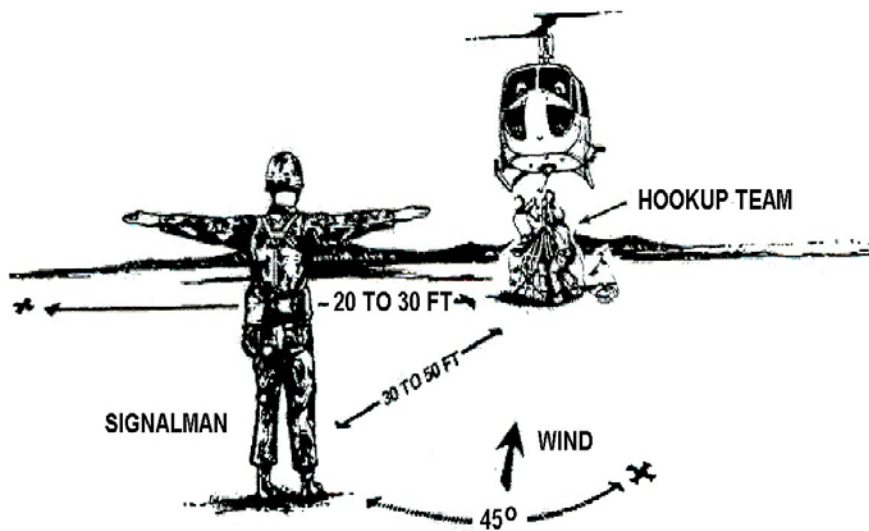

Figure 3-145
- h. Select an outside signalman to give hand and arm signals to pilot (see Figure 3-145).